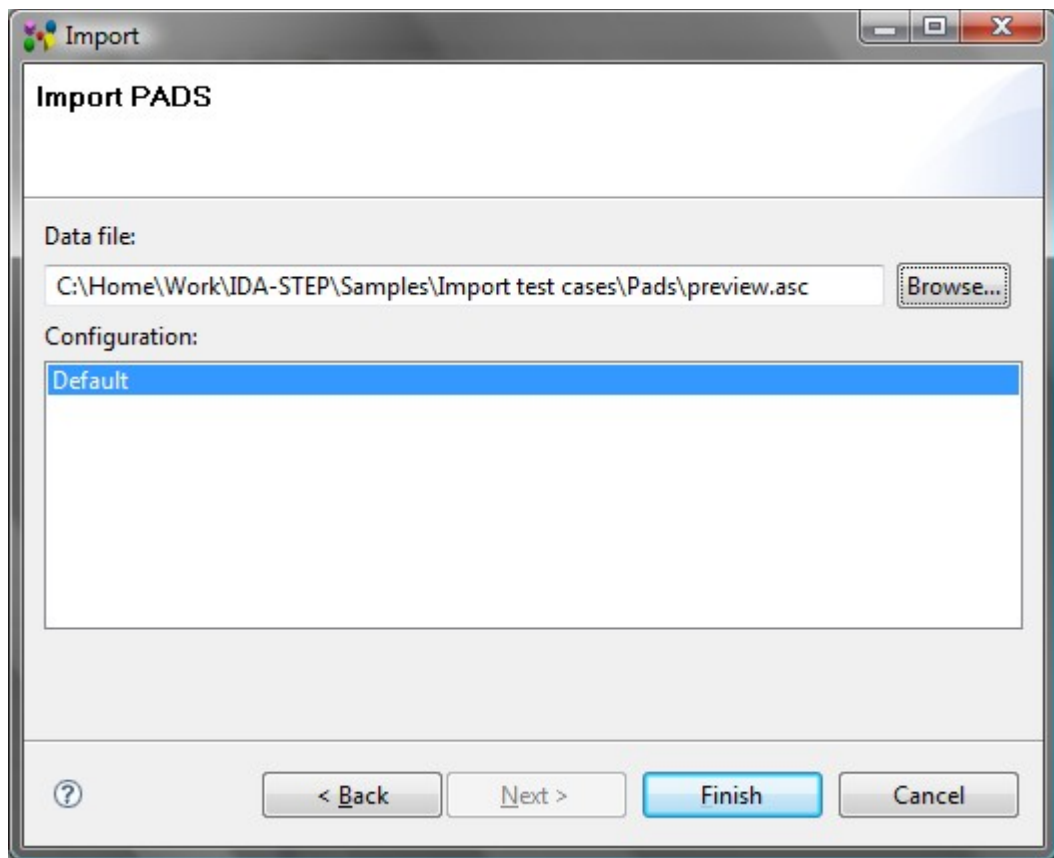

Figure 1. Import PADS wizard page
- Select **Electronics ->  PADS** item in the appeared **Import** wizard page. The **Import PADS** wizard page appears on the screen (see Figure 1):